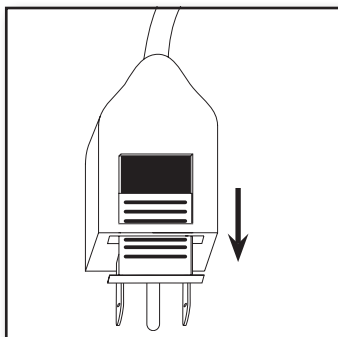

Figure 4
2. Disassemble grills by carefully removing the screw on the bottom of the ring. See Figure 4.